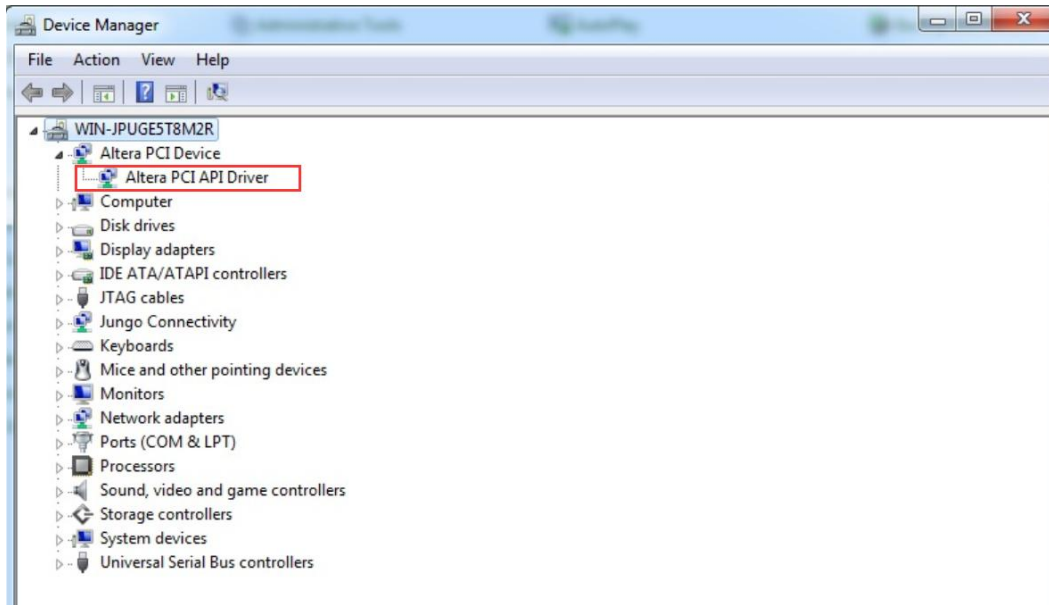

Figure 7-10 Screenshot for PCIe Driver
- Make sure the Windows has detected the FPGA board by checking the Windows Control panel as shown in **Figure 7-10**.